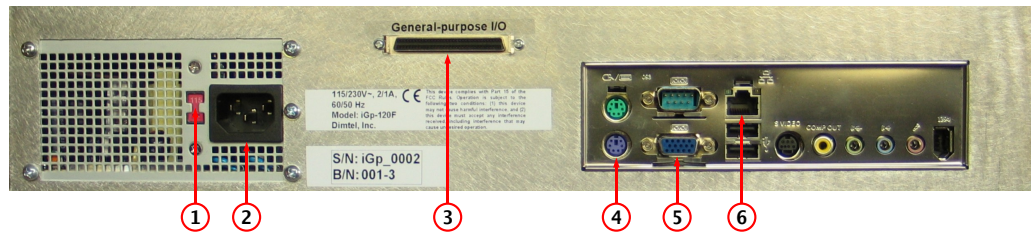

Figure 3: Rear panel features
**WARNING: Before connecting power to the unit make sure the voltage selection switch (Fig. 3, item 1) is in the correct position (115 or 230 V).**
1. Configure voltage selection switch (Fig. 3, item 1). Mains supply requirements for the iGp-1281F are listed in Table 9;
7. Connect a PS/2 keyboard (Fig. 3, item 4);
8. Connect a video monitor (Fig. 3, item 5);
Setup program is included in the **IOC** for configuring the important features of the iGp-1281F. The program can be executed locally or remotely. For local execution one must first connect a keyboard (Fig. 3, item 4) and a video monitor (Fig. 3, item 5) to the system. For remote setup, use **ssh** after system bootup to establish connection. In both setup methods the user must login as **root** (initial password is supplied with the system). If the newly received iGp-1281F must be configured remotely (when, for example, a keyboard or a monitor is not available), such configuration can be performed using a dedicated network. Set up a network consisting of the iGp-1281F, a network hub or a switch, and a remote computer. The iGp-1281F is delivered with the following network configuration:
- Make sure no cable is connected to the general-purpose digital **I/O** port (Fig. 3, item 3);